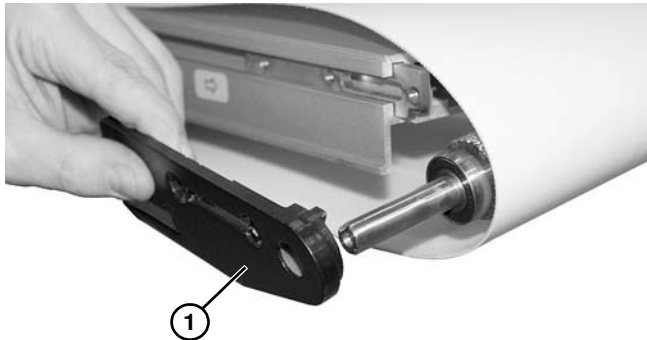

Figure 61
4. Remove the headplate (**Figure 61, item 1**) from the conveyor frame, holding spindle in place.